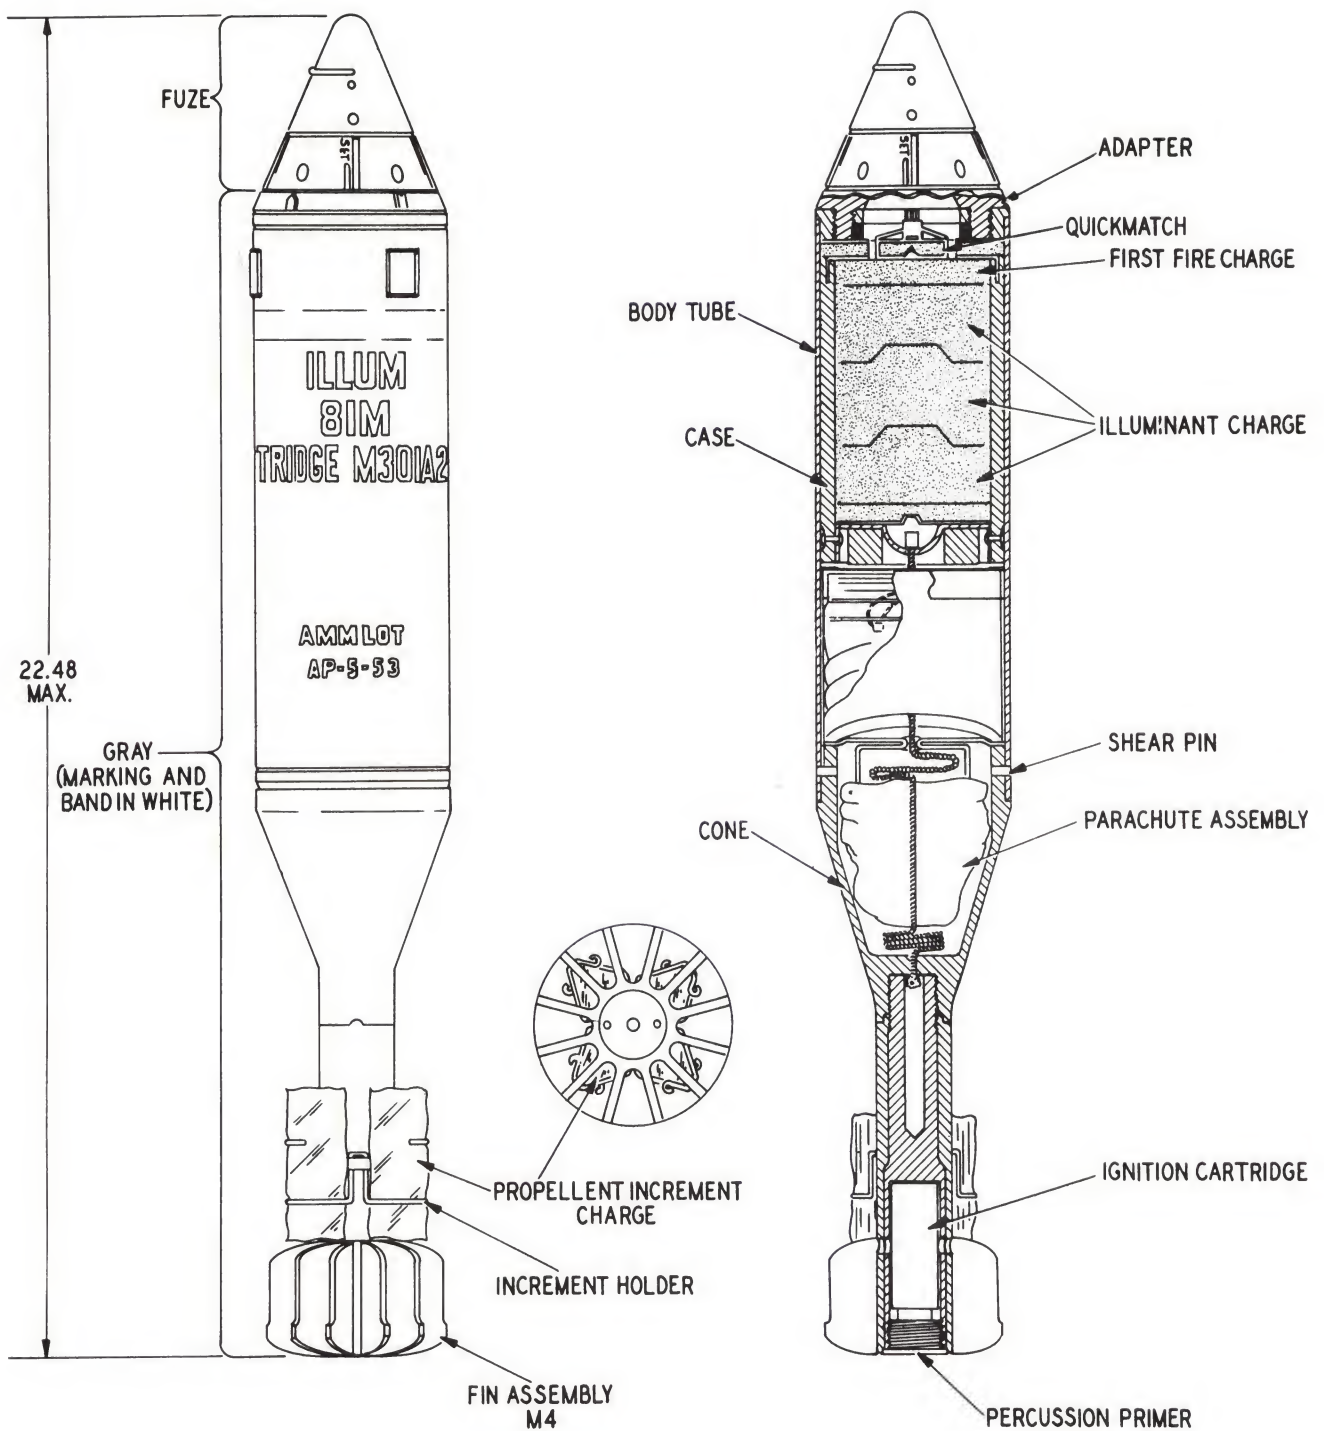

Figure 5-6. 81-MM Cartridge, Illuminating, M301A2
- 5-33. Illuminating, M301 Series. This cartridge (figure 5-6) is intended for